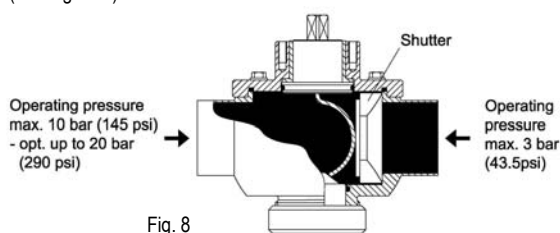

Fig. 8
| | Temperature | Pressure max (see Figure 8). | |
- Select the shutter position in the arc valve so that the product flow direction always presses the shutter against the valve outlet (see Figure 8)